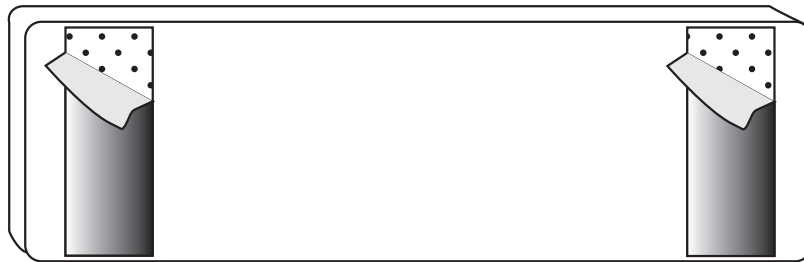

Figure 15 Remove backing to expose adhesive
1. Peel the backing off of the Dual Lock or hook-and-loop strips to expose adhesive. Note that the tag should be oriented as shown in Figure 15.
1. Peel the backing off of the tape strips to expose adhesive. Note that the tag should be oriented as shown in Figure 15.
1. Orient the tag in the same direction as shown in Figure 15.